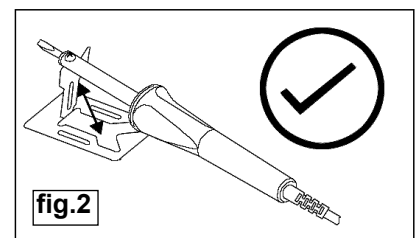

fig.2
- 3.2 **Preparing the iron stand.** Before using the soldering iron, set up the metal stand provided by bending the centre section upwards so that it is nearly vertical to the rest of the stand as shown in fig.2. Rest the soldering iron on the stand. Plug the iron into the mains and switch on leaving the iron on the stand to heat up.